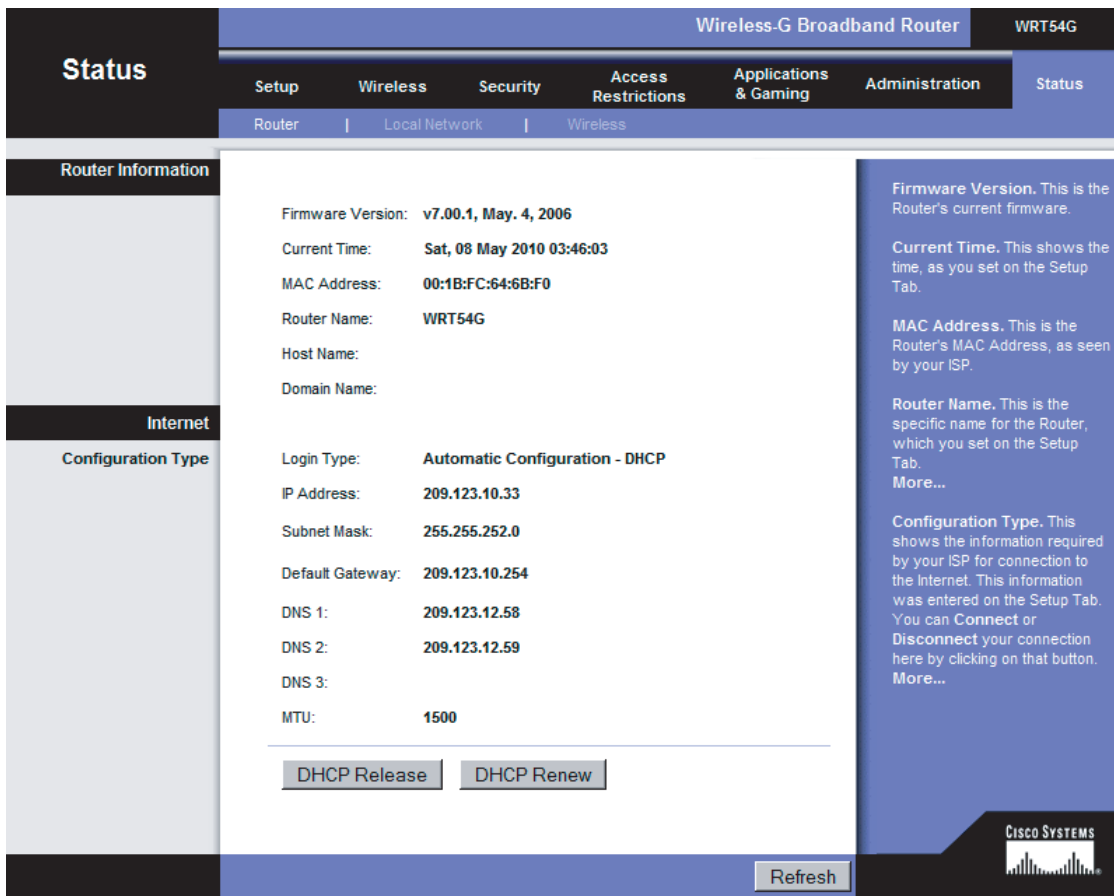

Figure 9.
5. Before you can access the panel over the Internet, you will need to know the WAN IP address of the router, which is assigned by your ISP. With the Linksys WRT54G router, this information is available in the Status tab, listed as IP Address (see Figure 9).